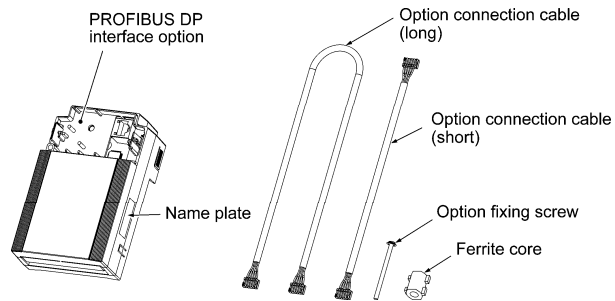

Figure 1.1 PROFIBUS DP Interface Option and Accessories
- (1) A PROFIBUS DP interface option and the following accessories are contained in the package. (See Figure 1.1.)
- (2) The option and accessories have not been damaged during transportation—there should be no dents or parts missing.
- (3) The model name "OPC-E1-PDP" is printed on the nameplate attached to the right side of the option. (See Figure 1.1.)